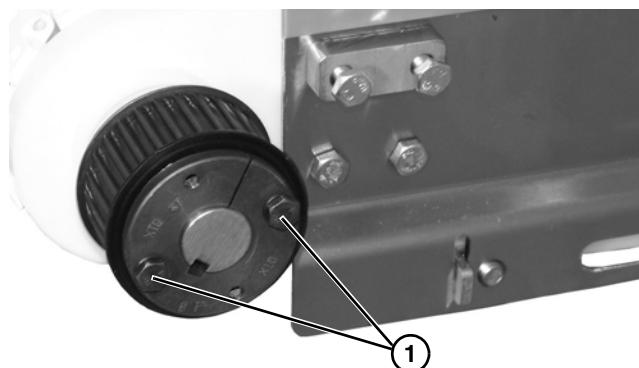

Figure 8
8. Tighten driven pulley taper-lock screws (**Figure 8, item 1**).